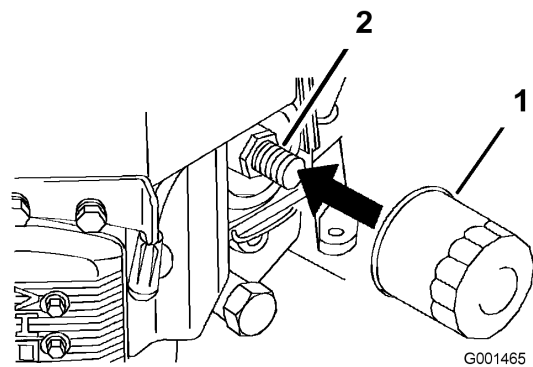

Figure 28
2. Remove the old filter (Figure 28).
3. Apply a thin coat of new oil to the rubber gasket on the replacement filter (Figure 28).
4. Install the replacement oil filter to the filter adapter, turn the oil filter clockwise until the rubber gasket contacts the filter adapter, then tighten the filter an additional 3/4 turn (Figure 28).